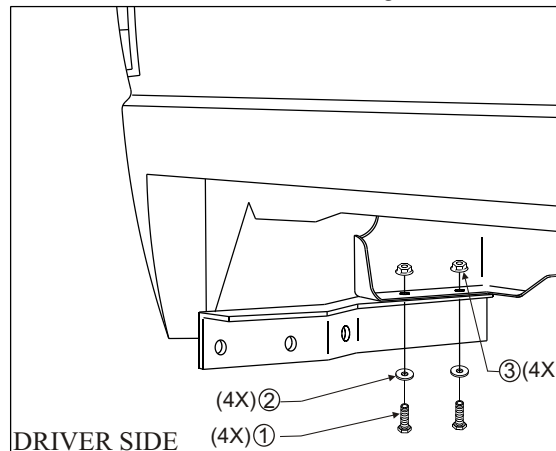

FIGURE 1
STP 1. Position the mounting brackets as shown, aligning the mounting bracket holes with the holes on the frame. Make sure the bracket is not upside down or mounted on the wrong side. Refer to Figure 1.
STEP 2. Pass (1) 1/2"-13 X 1.25" hex head bolt and (1) 1/2" flat washer through each of the mounting bracket holes. Refer to Figure 1.
STEP 3. Hand tighten (1) 1/2"-13 flange lock hex nut onto each bolt. Use a 3/4" combination wrench to prevent each bolt from rotating while tightening each nut.